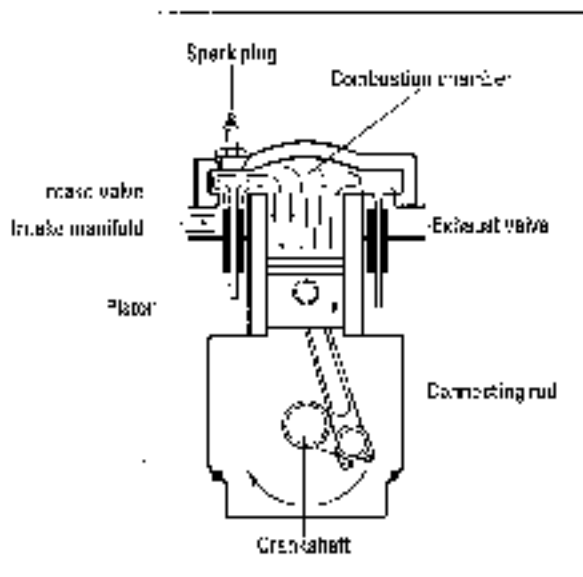

Figure 6-14:
1. **Intake stroke:** (See Figure 6-14.) When the piston moves *down*, it creates a vacuum in the top portion of the cylinder (where the piston was at the end of its last upstroke). Air can't get in from the bottom of the cylinder because the rings on the piston seal it off. Then the intake valves, conveniently located at the entrance of the intake manifold to the cylinder, open up and let the fuel/air mixture into the cylinder. This mixture rushes in to fill the vacuum left by the piston.
- 1. Intake stroke:** The cylinder head has a little chamber, called a *pre-chamber*, which has its own little intake valve. The spark plug is also located in this chamber. On the intake stroke, the little auxiliary intake valve opens and allows a very rich mixture of fuel and air to enter the pre-chamber. On the same stroke, the main intake valve opens up and brings a very lean mixture of fuel and air into the cylinder itself. Figure 6-18 shows a cylinder in a stratified charge engine during the intake stroke. Compare it to the conventional cylinder in Figure 6-14.